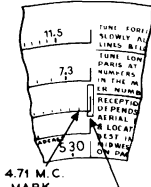

Fig. 8. Dial Calibration
- 1. Loosen the set screws on the shaft coupling of the tuning condenser. Then turn the tuning condenser until the plates are in the maximum capacity position. Now turn the dial until the glowing beam indicator is on the Index Line at the low frequency end of range 3. (See Fig. 8). With the dial and tuning condenser in this position tighten set screws.